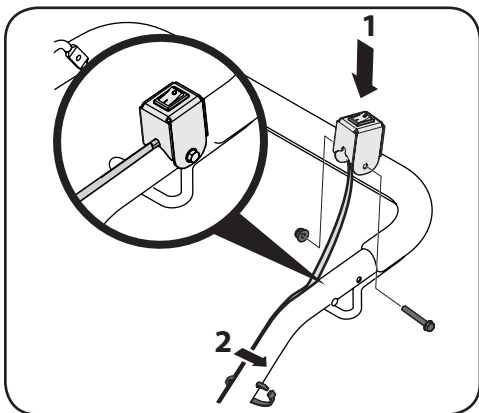

Figure 2-11
- Mount the emergency stop control ON/OFF switch onto the left side of the handlebar with the #10-32 : 1.50 hex bolt and 10-32 flange lock nut. See 1 in Figure 2-11.
- Finally, secure the wire near the bottom of the handlebar with a cable tie looped through the hole beside the instruction label on the left handlebar. See 2 in Figure 2-11.